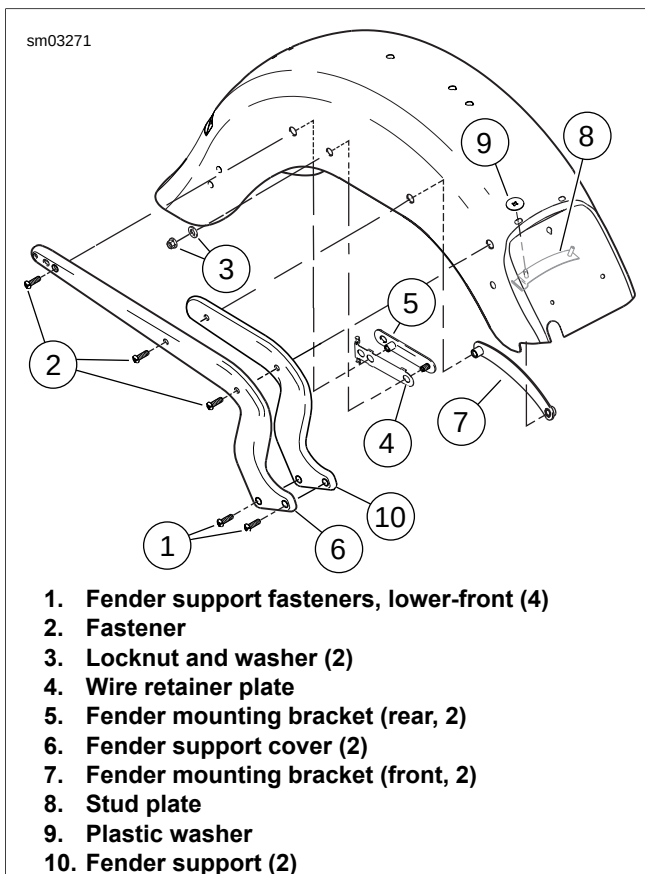

Figure 2-108. Rear Fender: FLSTF/B
6. See Figure 2-108. Remove fasteners (2) from front fender mounting brackets (7), rear fender mounting brackets (5) and wire retainer plates (4).
2. See Figure 2-108. Carefully place the fender into position. Install fender supports using hardware shown.
- a. Tighten fasteners (2) to 21-27 ft-lbs (28.5-36.6 Nm).
- b. Tighten fasteners (1) to an initial torque of 30-35 ft-lbs (40.7-47.5 Nm).
- c. Loosen fasteners (1) and final-tighten to 38-42 ft-lbs (51.5-56.9 Nm).